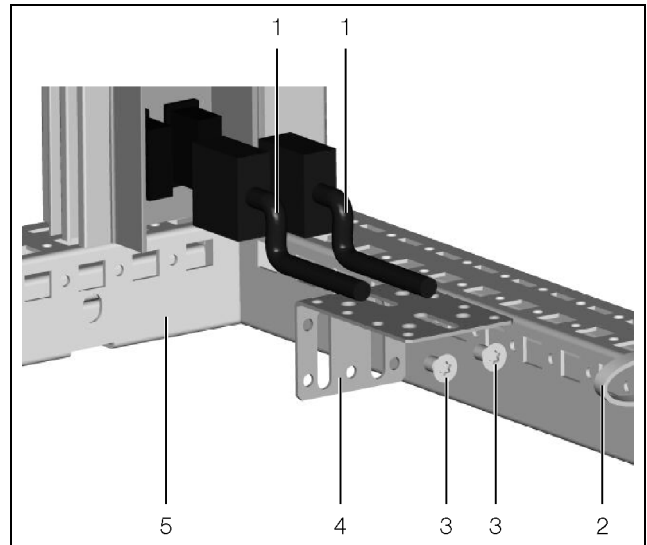

Fig. 5: Example of strain relief installation
- Secure the bracket (fig. 5, item 4) to the base frame (fig. 5, item 5) using the screws provided (fig. 5, item 3).
- Secure the connection cable (fig. 5, item 1) to the cable clamp bracket using the cable ties provided (fig. 5, item 2).